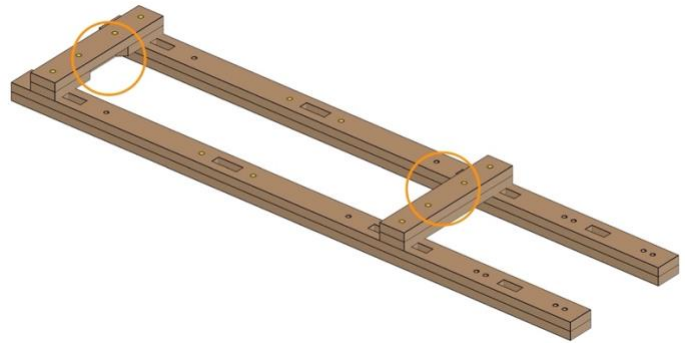

Fig. 10
- *Fig. 10* shows the completed process.